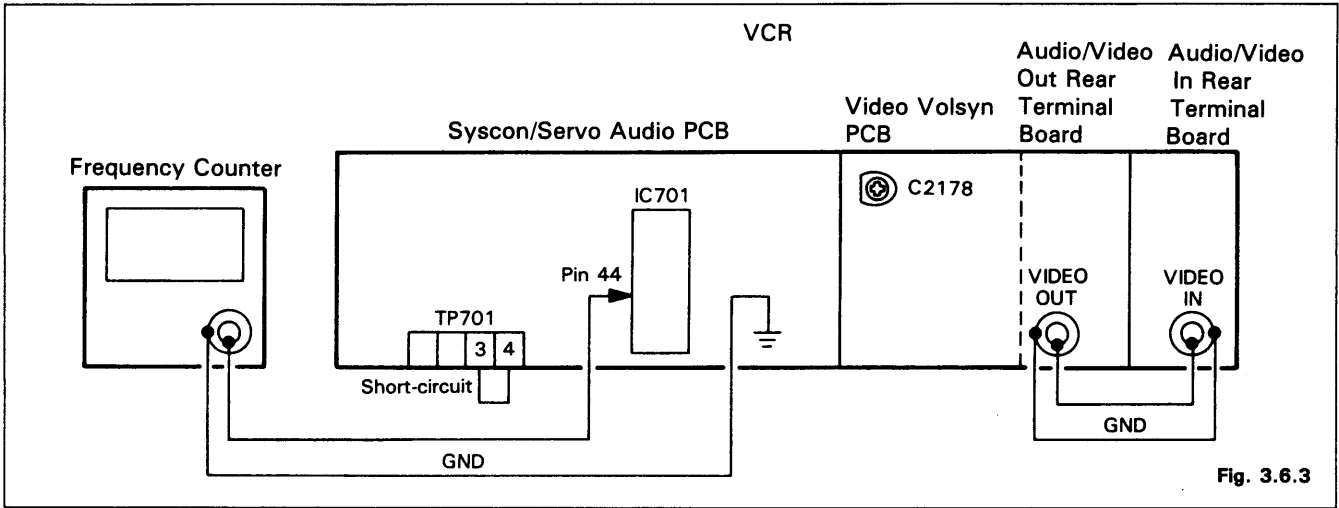

Fig. 3.6.3
- Connect the VIDEO INPUT terminal to the VIDEO OUTPUT terminal. (Refer to Fig. 3.6.3)